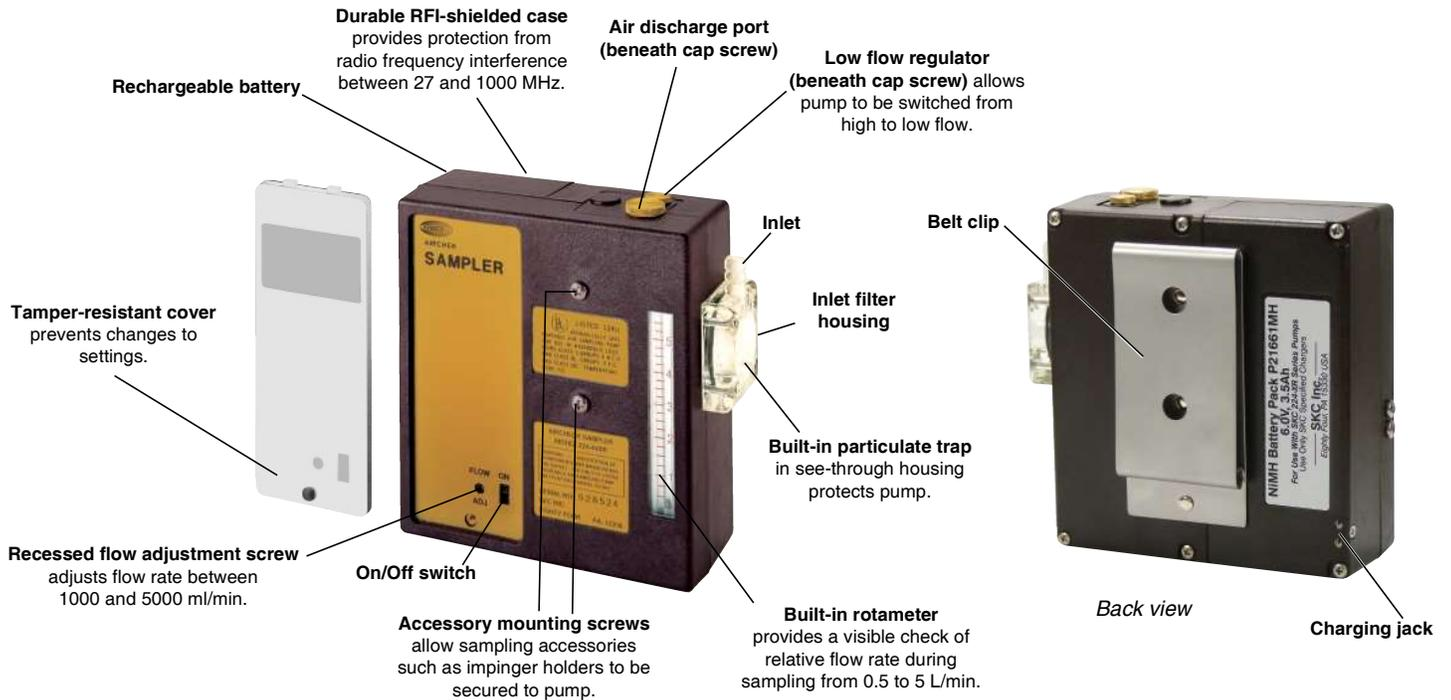

Figure 1. Front and back views of 44XR Universal Sample Pump
The 44XR Universal Sample Pump (Figure 1) is a constant flow (from 5 to 5000 ml/min) air sampler suitable for a broad range of applications. It is ideal for industrial hygiene studies as well as environmental testing.
3. Insert the charging plug end of the cable into the jack on the back of the pump's battery pack (*Figure 1*).
## Turn Pump Power On/Off (Figure 1)
1. To ensure the pump is set for high flow, remove the cap screw (*Figure 1*) covering the regulator valve and turn the exposed screw **clockwise** until it stops. Do not overtighten. *See right.*
4. Set the flow rate using the flow adjustment screw (*Figure 1*) until the calibrator indicates the method-specified flow rate. Take a minimum of three readings and record the average flow rate, as per OSHA/NIOSH instructions.
- b. **When using impingers, an in-line trap (SKC Cat. No. 225-22 or 225-22-01) is required to prevent fumes from accidentally being drawn into the sampler.** Place the in-line trap between the pump and the impinger. Mount the impinger and trap to the face of the sampler using the accessory mounting screws (Figure 1) or place them in a holster at the worker's waist.
3. Start sampling by turning on the pump using the on/off switch (Figure 1). Record the start time.